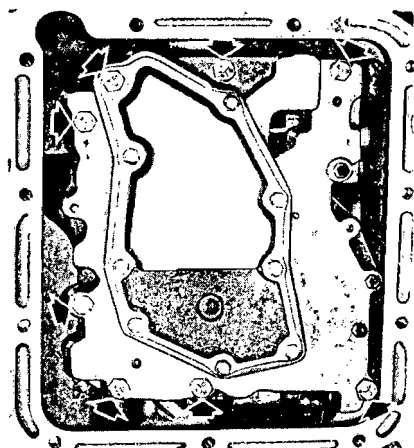

FIG. 38—Control Valve Attaching Bolts
6. Remove the eight control valve body attaching bolts (Fig. 38). Remove the control valve body from the case.